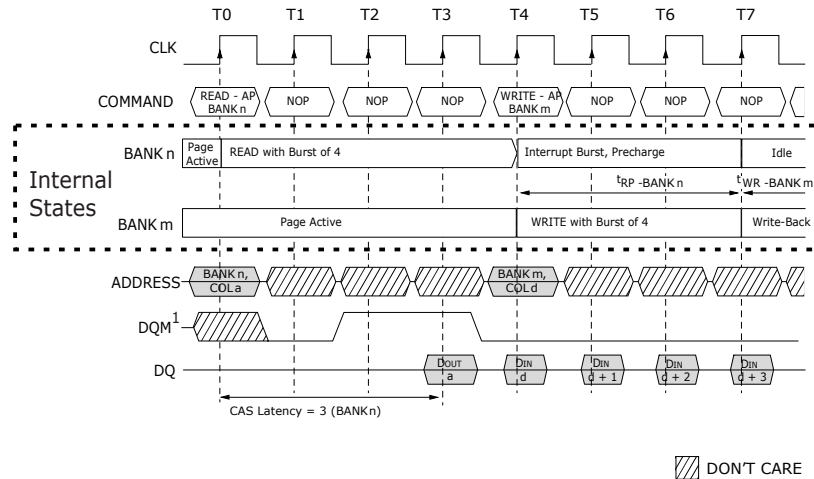

Figure 49. Read with Auto Precharge Interrupted by a Write
2. Interrupted by a Write (with or without auto precharge): When a Write to bank *m* registers, a Read on bank *n* will be interrupted. DQM should be used two clocks prior to the Write command to prevent bus contention. The precharge to bank *n* will begin when the Write to bank *m* is registered (Figure 49).